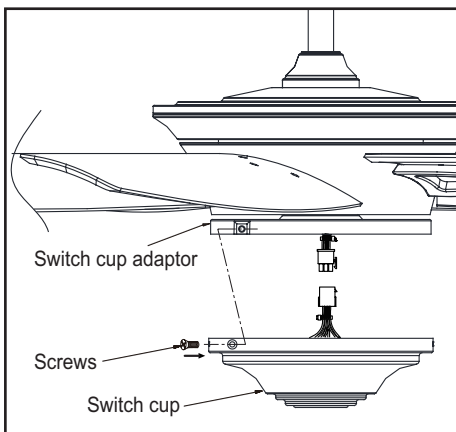

Figure 15
3. Remove three screws from the switch cup adaptor. Connect the molded adaptor plug in the switch cup with the molded adaptor plug of the fan motor assembly. (Figure 15)
4. Attach the switch cup to the fan by aligning the three screws holes on switch cup with the screw holes on the switch cup adaptor. Install the three screws that were removed in step 3. Tighten all three screws firmly. (Figure 15)